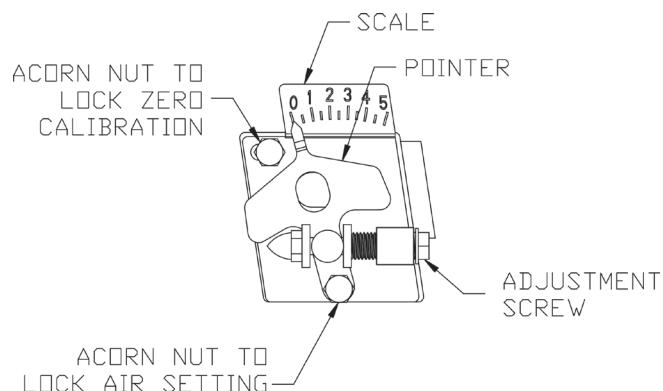

Figure 31: Head/Air Adjustment Plate Assembly
- m. Loosening the splined nut and lower acorn nut, and, turning the adjustment screw, either forward or, rearwards, will adjust the head/air plate. DO NOT LOOSEN UPPER LEFT ACORN NUT, which locks zero head/air setting. See Figure 31.
- a. Move the Head/Air Setting forward or back one position at a time to optimize the smoke and CO₂ readings. See Figure 31.